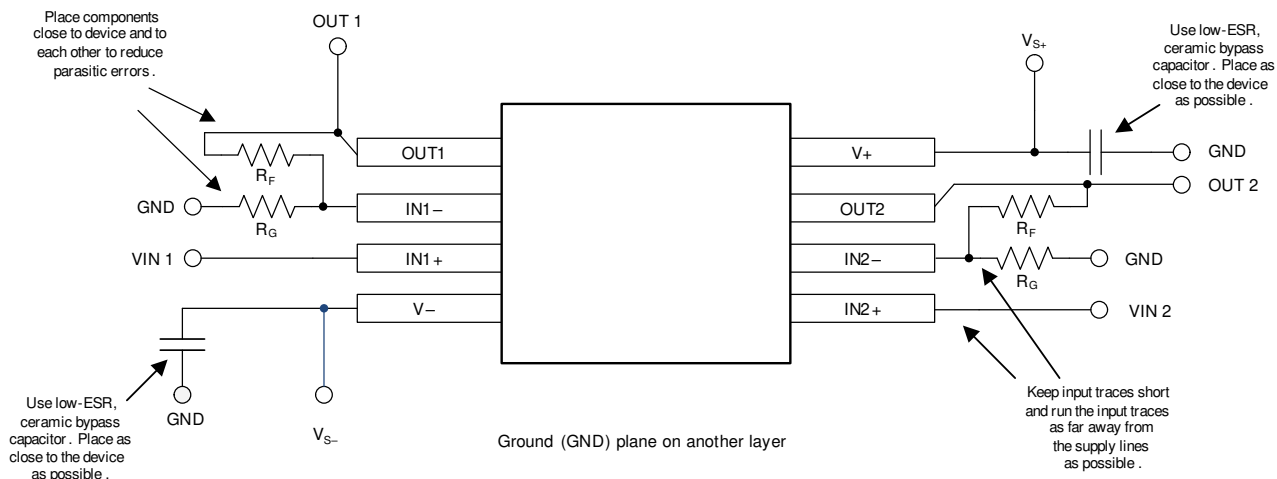

Figure 8-4. Layout Example
- Place the external components as close to the device as possible. As illustrated in Figure 8-4, keeping R_F and R_G close to the inverting input minimizes parasitic capacitance on the inverting input.